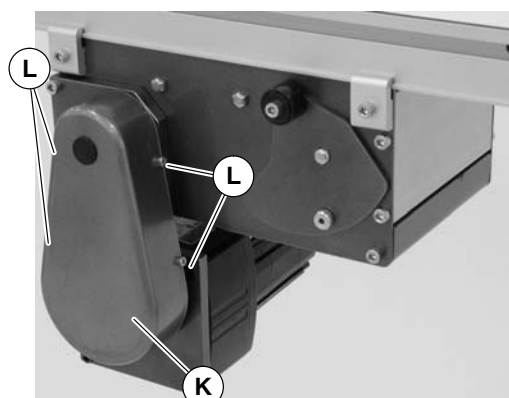

Figure 15
6. Install cover (K of Figure 15) with four (4) screws (L). Tighten screws to 35 in-lb (4 Nm).